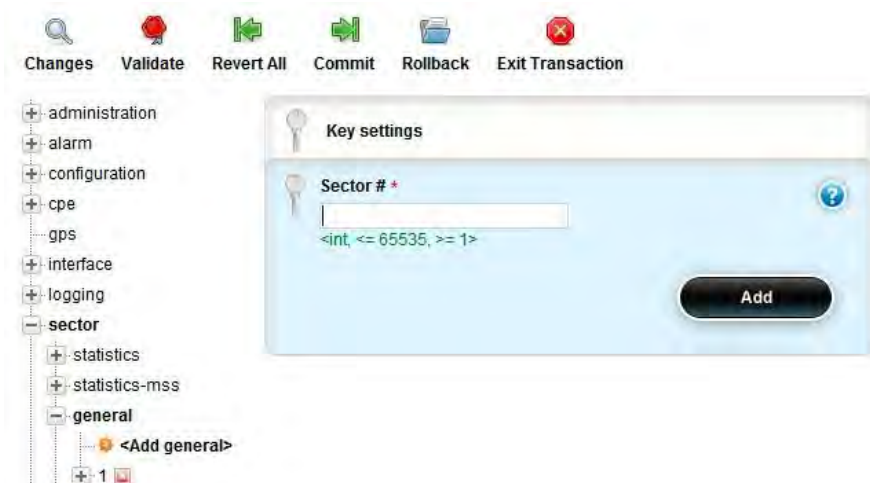

Figure 39 Sector Key Settings
- **Key Settings.** This indicates the relevant sector, which as has been described in number 1. This is not a configurable parameter. A new key may be added in Edit Mode (Figure 39)
The Key Settings are defined by the following parameters (Figure 39):